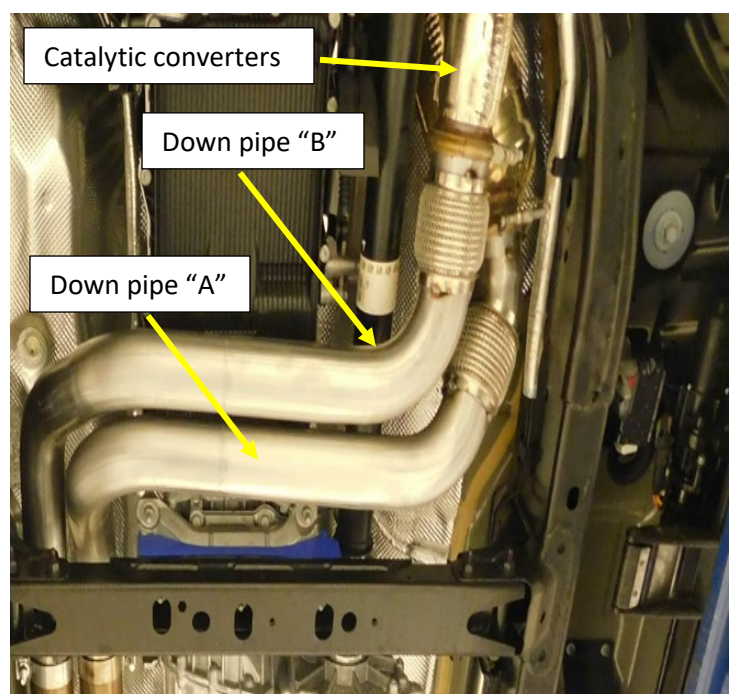

Figure.9
2. Install Flowmaster down pipe "A" with the outlet end on top of the transmission crossmember and the inlet flange with the gasket on to the catalytic converter outlet. **Fig.9**
5. Repeat the process with the Flowmaster down pipe "B". **Fig.9**